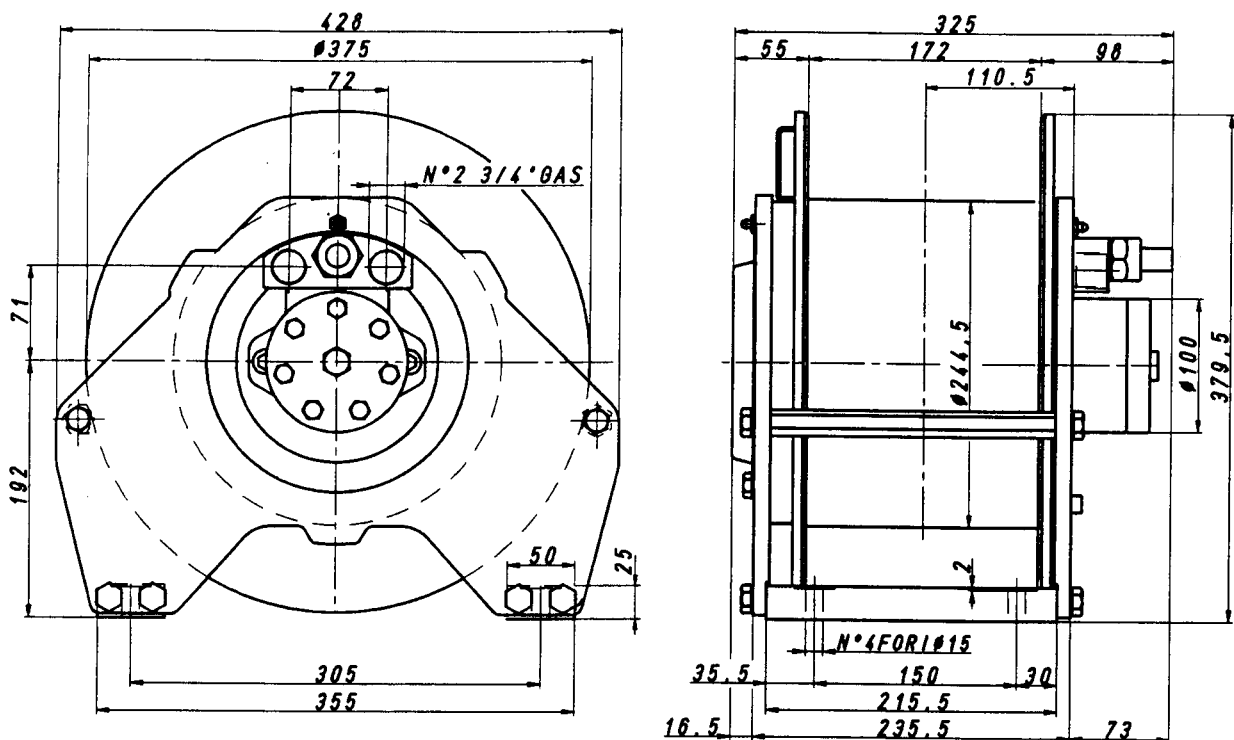

Fig.6-1
6.3 VERRICELLO(Fig. 6.1 - 6.2)
6.3 WINCH(Fig. 6.1 - 6.2)